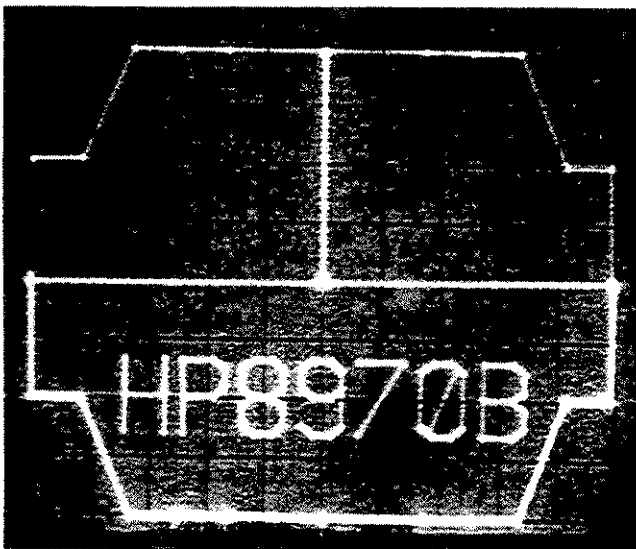

Figure 8-6. Test Pattern on Oscilloscope
4. The test pattern should be  $6.0 \pm 0.5$  volts vertically and horizontally. Adjust the oscilloscope until the test pattern fills the grid area of the display (see Figure 8-6). If no problem is detected with the test pattern, continue with the HP-IB/SIB Check (Check 7).